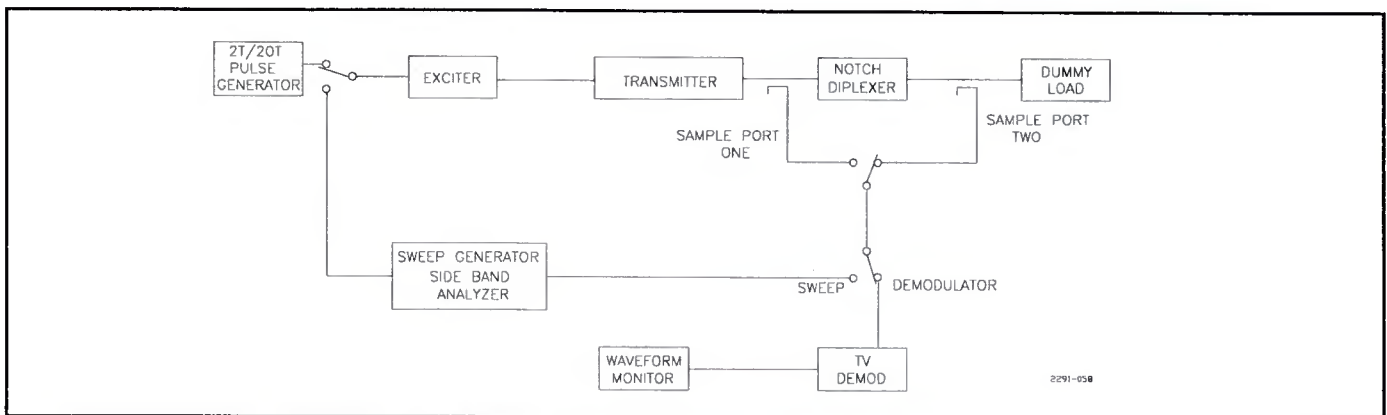

Figure 5-13. Test Equipment for Group Delay and Notch Diplexer Equalizer Adjustments
- a. Set up test equipment per Figure 5-13.